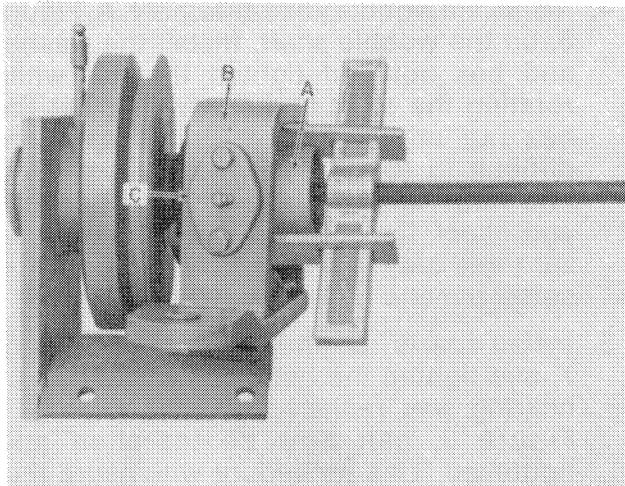

FIGURE 3
1. Remove the cap, cotter pin, and hex nut from the wobble hub, A, Figure 3. Install a bearing puller and remove the complete wobble hub assembly from the wobble shaft as a unit.
NOTE: If the bearing puller being used will not fit inside yoke, B, Figure 3, the puller can be placed on trunnion bearing caps at C, after grease fittings are removed.
4. Install the wobble yoke assembly, A, Figure 3, on the wobble shaft. Install the washer and hex nut and tighten the nut while rotating the shaft and sheave. Adjust the hex nut until the shaft and sheave are difficult to rotate. Then back the nut off one flat. Tap the sheave with a hammer and check for end play. There should be zero end play in the assembly before the cotter pin and cap are installed.